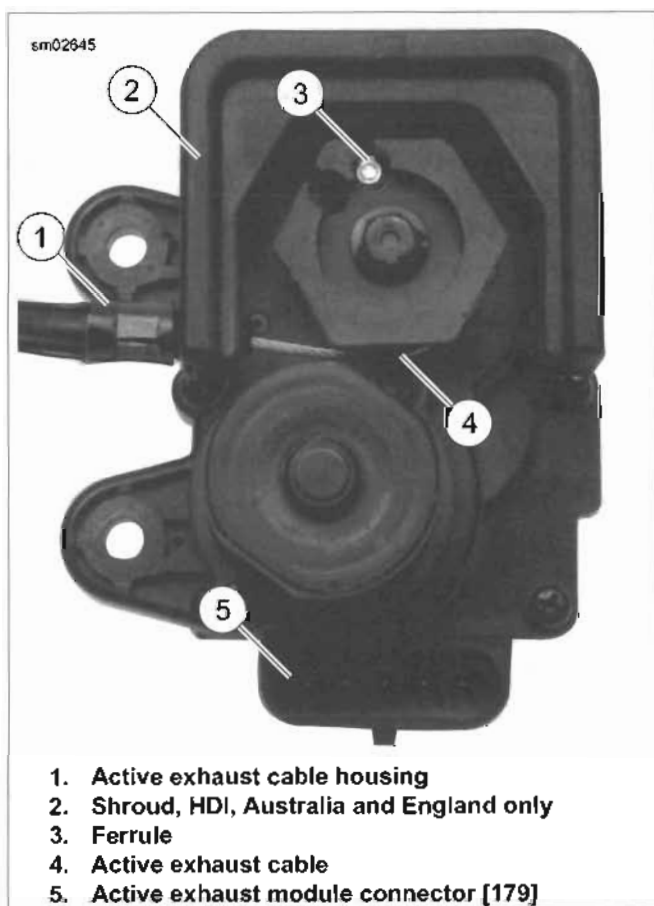
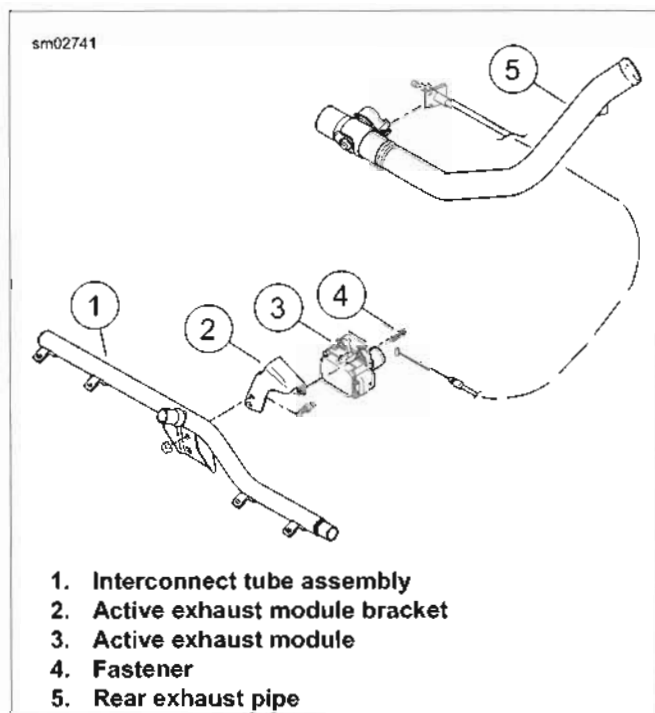

Figure 7-108. Active Exhaust Module
Figure 7-109. Active Exhaust Module Mounting
2. See Figure 7-108. Disconnect active exhaust module connector [179] (5).
3. Remove active exhaust cable housing (1) from notch in shroud (2). Remove ferrule (3) from active exhaust module to free cable (4).
4. See Figure 7-109. Remove module fasteners (4) from active exhaust module bracket (2).
See Figure 7-108. Active exhaust module shroud (2) can be replaced. Replace shroud if active exhaust cable housing (1) is a loose fit in shroud.
1. See Figure 7-109. Install active exhaust module (3) to bracket (2) using fasteners (4). Tighten to 32-40 in-lbs (3.6-4.5 Nm).
2. See Figure 7-108. Install ferrule (3) into slot shown. Wrap cable around active exhaust module shroud as shown.
3. Clip active exhaust cable housing (1) into shroud (2).
4. Connect active exhaust module connector [179] (5).